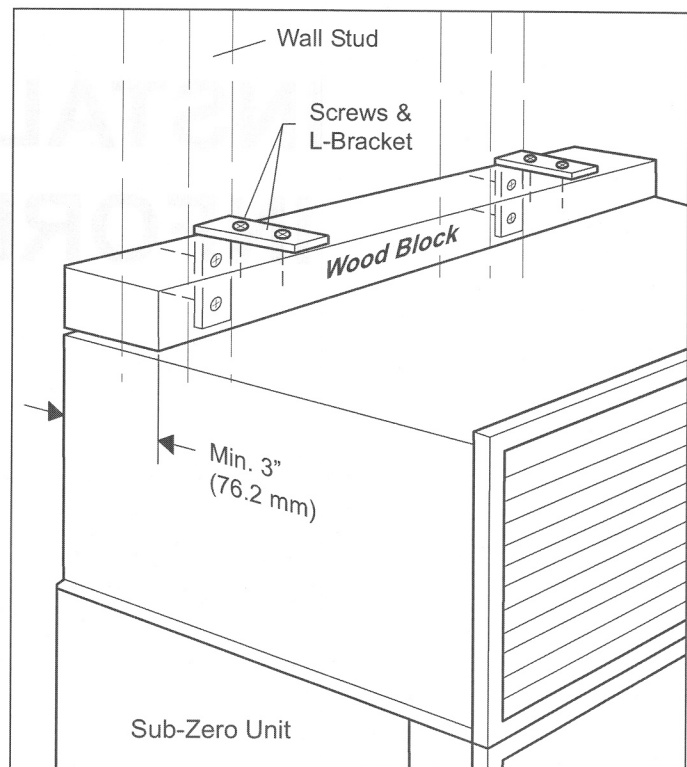

Figure 2-1. Anti-Tip Components
1. Locate and mark two wall studs at back of unit installation location (See Figure 2-1).
2. Identify and mark proper height to clear unit top. Space between unit top and bottom of wood block must NOT be more than 1/4" (6.1 mm) (See Figure 2-1).
3. Using the L-brackets and screws provided, secure wood block to wall studs, located in step 1, making sure screws extend 7/8" (22.2 mm) into each wall stud. The wood block must extend a minimum of 3" (76.2 mm) over unit (See Figure 2-1).